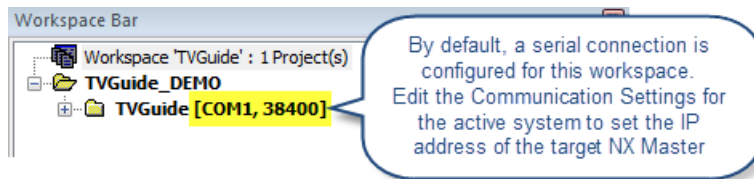

FIG. 154 NetLinx Studio 4 Workspace Bar - TV Guide demo (default communication settings)
- Select **Settings > Active System Communication Settings** to open the *Communication Settings* dialog. Use the options in this dialog to establish a connection to the target NX Master. Note that by default, the workspace is configured to use Serial communication (FIG. 154):